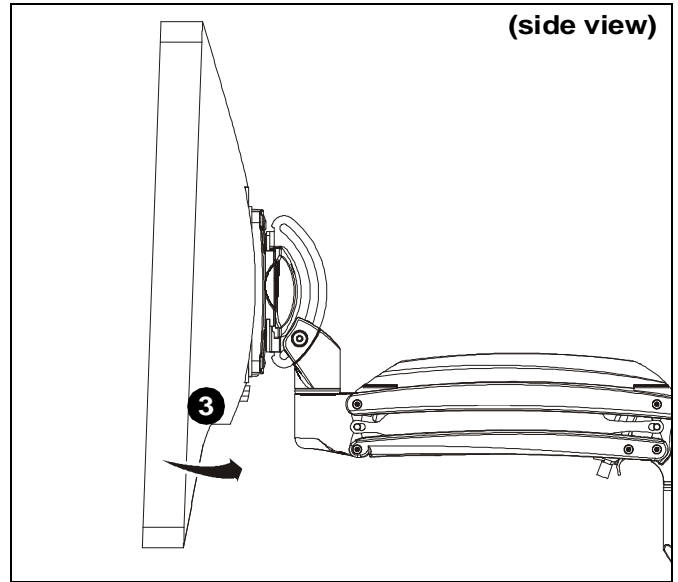

Figure 13
3. Slide base of monitor towards mount until lower tabs secure display to mount. An audible "click" should be heard. (See Figure 13)